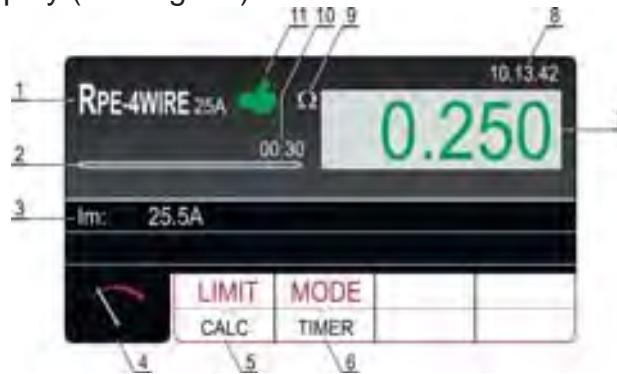

Fig. 31 : Visualization of RPE-4WIRE test result
6. Press the **START/STOP** key to perform the measurement. The test result is shown on the display (see Fig. 31)